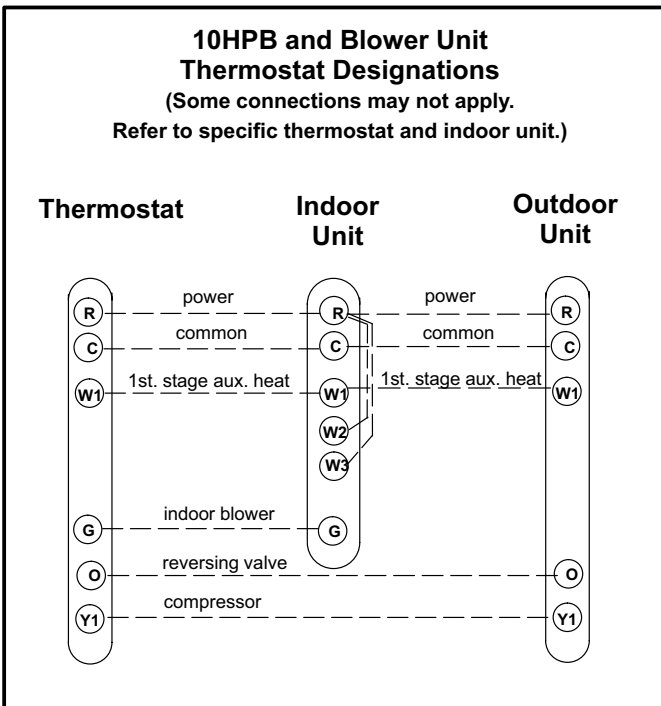

Figure 5
- 4 - Install voltage wiring from outdoor to indoor unit and from thermostat to indoor unit. See figures 5 and 6.